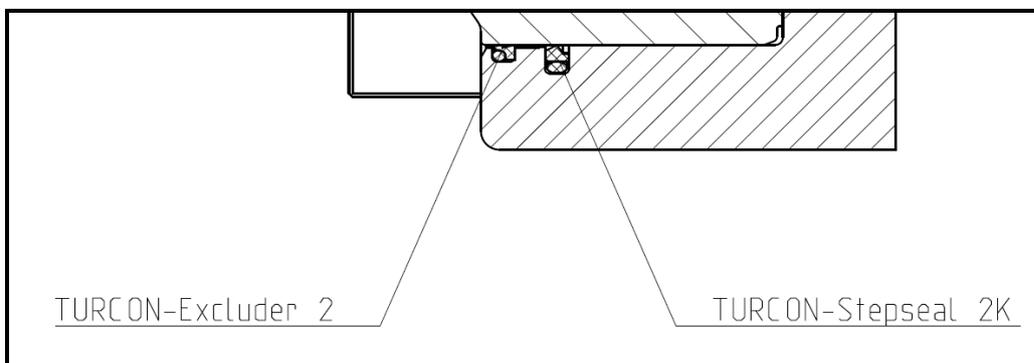

Fig. 11.3
- Disassemble the half of the brake caliper. Loosen the hexagon nuts M10 (item 8) and remove the pressure springs and the friction pad. Close up one pressure oil connection on the brake caliper half and attach a hydraulic hand pump onto the second pressure oil connection. Hold the brake housing (item 2) tight or clamp it. Squeeze the brake pistons (item 7) out using the hand pump. Make sure that the brake piston is squeezed evenly out of the brake housing (item 2).
- Remove the Turcon Excluder 2 (item 5) and then the Turcon Stepseal 2K (item 4) from the brake housing (item 2). Insert the new seal into the brake housing. In doing so, ensure the correct fitting position of the seal (see Fig. 11.3). This should only be carried out by hand, so that the sealing edge is not damaged. To make fitting easier, the seal can be bent into a